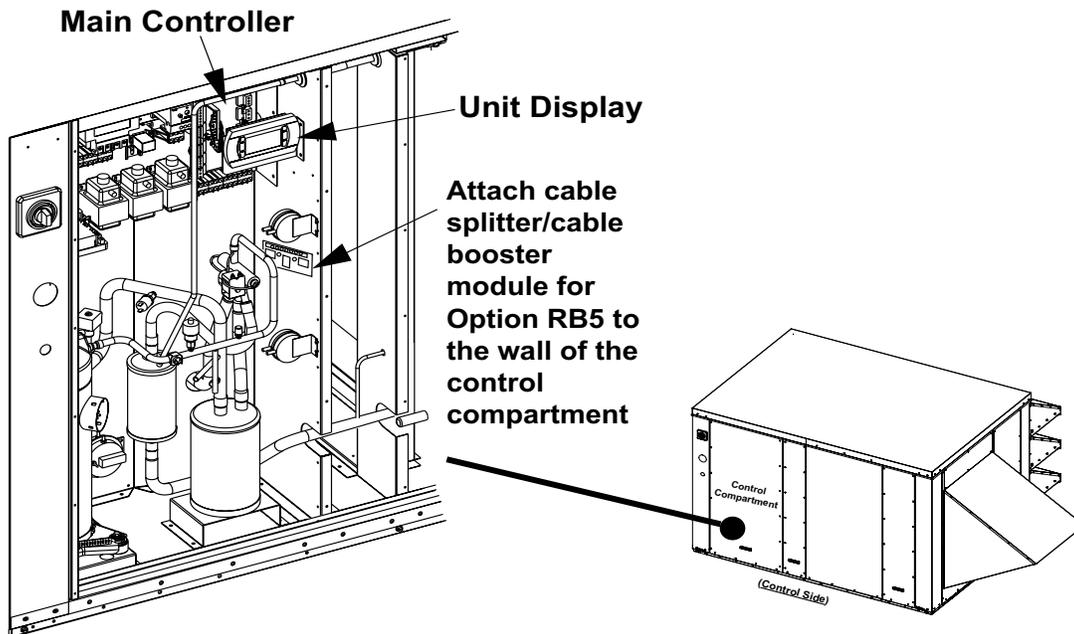

Figure 28. Cable Splitter and Signal Booster Modules Installed on Wall of Controls Compartment
2. Install one cable splitter and signal booster module inside cabinet (see Figure 28).
- a. In controls compartment, locate unit display and main controller (see Figure 28) and unplug (from controller) existing 6-pin connection cable that connects unit display to controller.